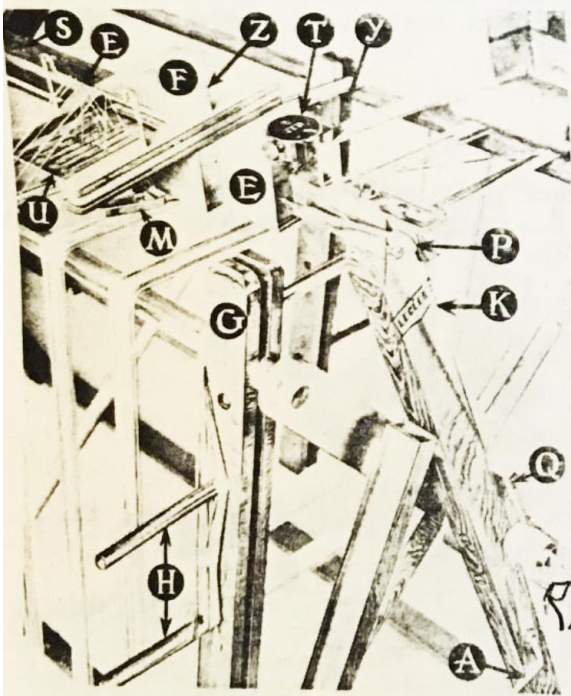

Fig. 310
The mill is delivered folded. To set it up, we first open it, (fig. 321) placing the cord under the pins (A); the heck-block should be placed on the rail (E fig. 310).
The next step is to open the revolving frame (read), put in place the cross-piece (G) with wing nut under, and insert the pegs H (fig. 310).
Finally the counter (T fig. 310) is screwed to the heck-block and the rigid heddle (U fig. 310) is placed in the support in the same block, the cord K is wound around the cylinder first then tightened at the heck-block.
When the cord K is in place it is attached to the heck-block (guide) and around the cylinder (R fig. 310) and passes on pulleys which keep it away from the wooden parts of the mill. We should take care that the cord at the right hand side of the mill rolls from the back of the cylinder, and the left hand side cord from the front, so that when rolling at one end, it unrolls at the other. When the rotating frame turns, the cylinder R turns also, and pulls the cord one way or the other depending on the direction of rotation. The cord in turn makes the heck-block E slide on the rail S. Thus the heck-block travels all the way from the left to the right and back.
The yarn used for warping passes through the opening in the guide "M", and through the heddle-reed V (fig. 310). The heck-block guides the yarn wound on the reel when the latter is in motion. The weaver does not touch the yarn except when making the crosses (leases) at each end of the warp. To avoid piling up of the yarn, change the position of the heck-block on its base from time to time. This is done by inserting the peg Z in one of a row of holes made in the base E (fig. 310-304).
When the warping is finished the beaming is done directly from the warping mill. To get the proper tension of the warp, set the brake on the right hand side of the mill (Q fig. 310). This brake is released when warping.
First find the proper position for the left hand cross-piece (G). The right hand piece is mounted always as far to the right as possible. The other can be set in any place whatsoever. One turn of the reel corresponds to 3 yards of the length of warp. If the warp is 15 yards long then we make 5 turns of the reel, always starting on the right hand side. Then we attach the cross-piece (G) to the reel, opposite the guide in the heck-block (fig. 310).
To prevent the reel from turning beyond the ends of the warp which might damage the cord or push the counter out of place, we use end of cross-pieces (G fig. 310) which are longer at one end, strike the heck-block when it approaches the end of the warp. Finally we adjust the cord K so that it will be rather tight; otherwise it may slide on the cylinder R. At the same time it must be so adjusted on the cylinder that the counter on the heck-block base just touches the metal bracket stop Y (fig. 310) at the end of each portee. This adjustment is very important, and should be checked several times before starting the warping. This can be done by loosening the wing nut that holds the bracket. Tighten same when the counter strikes perfectly. The length of the cord should be adjusted by disconnecting the end from Base E and making a knot inside of the cylinder R.
When warping from two or four tubes, we pass the threads only through the guides (M & E fig. 310), and the heddle-reed (U) can be completely removed. The crosses (one at each end) are made two by two threads.
Turn the reel until the heck-block reaches the extreme right - hand position. The longer end of the cross-pieces should strike the heck-block; this is adjusted with the cord K attached to the heck-block. We place 2 pegs in the cross-piece at the front of the mill, and tie the ends to the lower peg; then turn to the left cross-piece. The crosses are made as on H (Fig. 310). This end of warp will have crosses in groups of 4, 8 or even more threads. Now turn the reel in the opposite direction without touching the yarn until the heck-block will come to the left hand cross, where it will stop by itself.
The brake (Q fig. 310) should be set by tightening the wing nuts. (Little grease or oil should be put in hinges of the mill otherwise it will be useless). A good tension should be kept so that all threads warp properly, but not too much as we risk breaking the threads or even the mill.